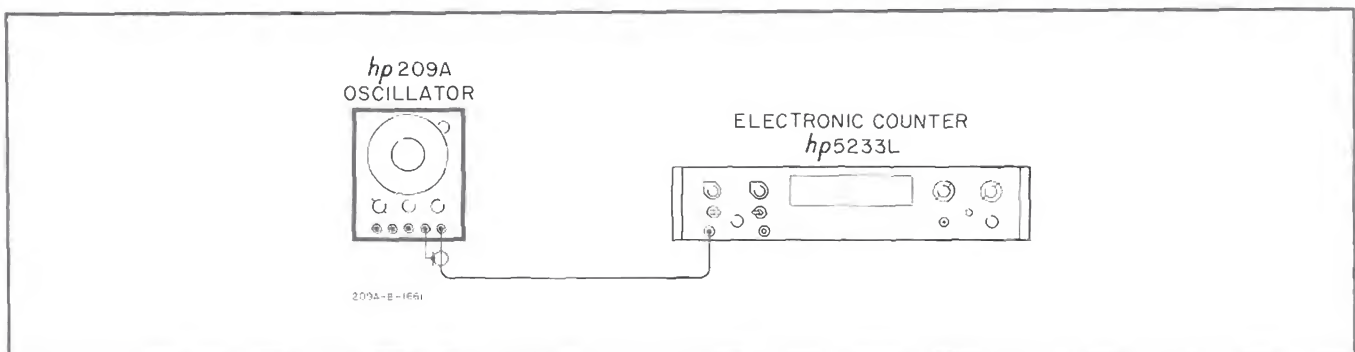

Figure 5-1. Dial Accuracy Check
- a. Connect the Model 209A and the Frequency Counter as shown in Figure 5-1. Set the counter to measure frequency and check the Model 209A at the frequencies listed in Table 5-2 for the tolerances indicated.